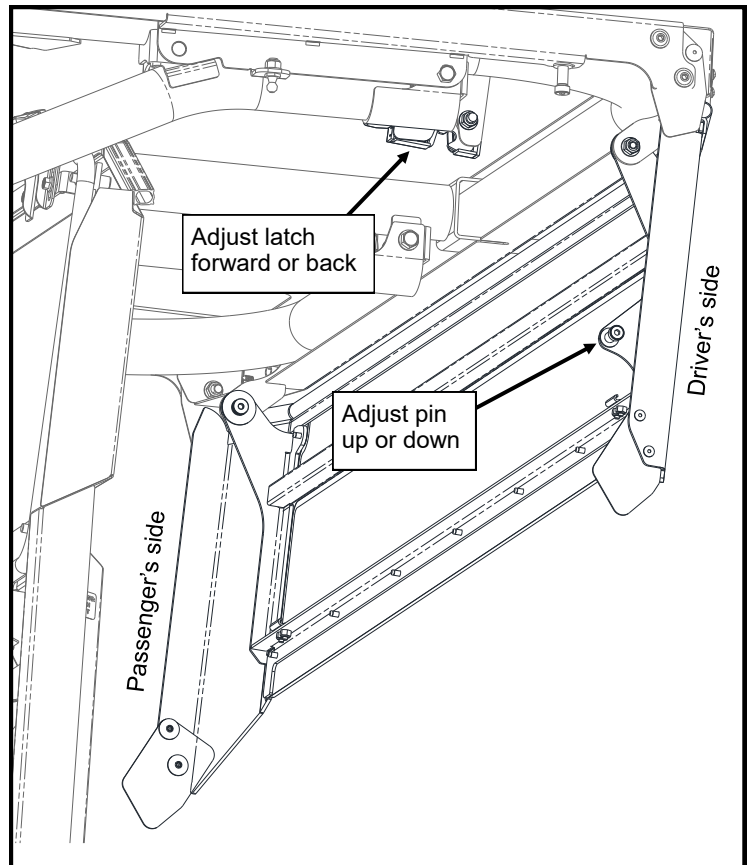

Figure 9.2: Upper Rear Panel Latch Adjustment
- 9.2 Rotate the upper rear panel up and check alignment of the rear panel pin and latch on the driver's side. Adjust the latch and pin as needed until the panel latches fully and repeatably (see Figure 9.2).